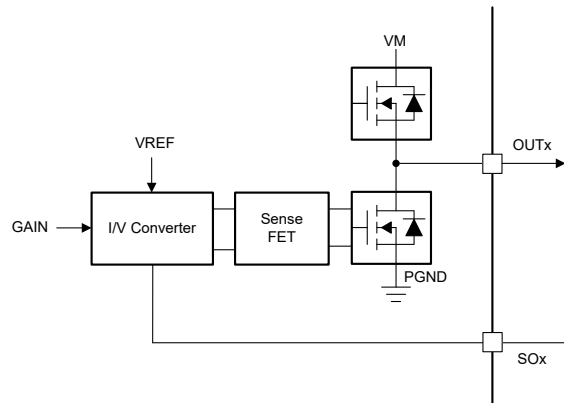

Figure 8-19. Integrated Current Sense Amplifier
Figure 8-19 shows the internal architecture of the current sense amplifiers. The current sense is implemented with a sense FET on each low-side FET of the DRV8317 device. This current information is converted in to a voltage based on the CSAREF pin (V_{REF}) input and the CSA gain setting; this voltage is available on the SOx pin. The CSA output voltage can be calculated using Equation 2
$$SOx = V_{REF}/2 + (G_{CSA} * I_{OUTx}), \text{ wherein } I_{OUTx} \text{ is considered positive in the direction shown in Figure 8-19.} \quad (2)$$